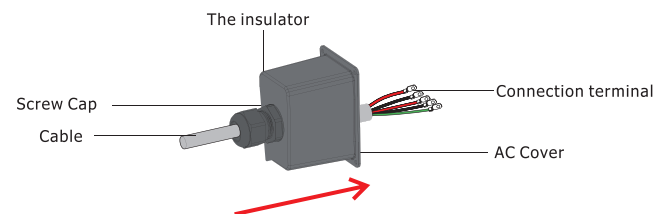

Figure 4.3-4 The AC cable passes through the terminal cover
Step 2. Using the terminals in the accessory box, pass the AC cable through the terminal cover. See Figure 4.3-4.